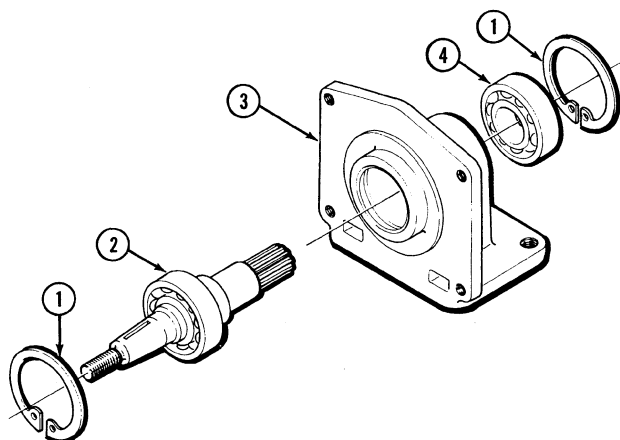

Figure 18
1. Remove the two snap rings (1), Figure 18.
3. Drive out the bearing (4) in the support bracket (3), Figure 18.